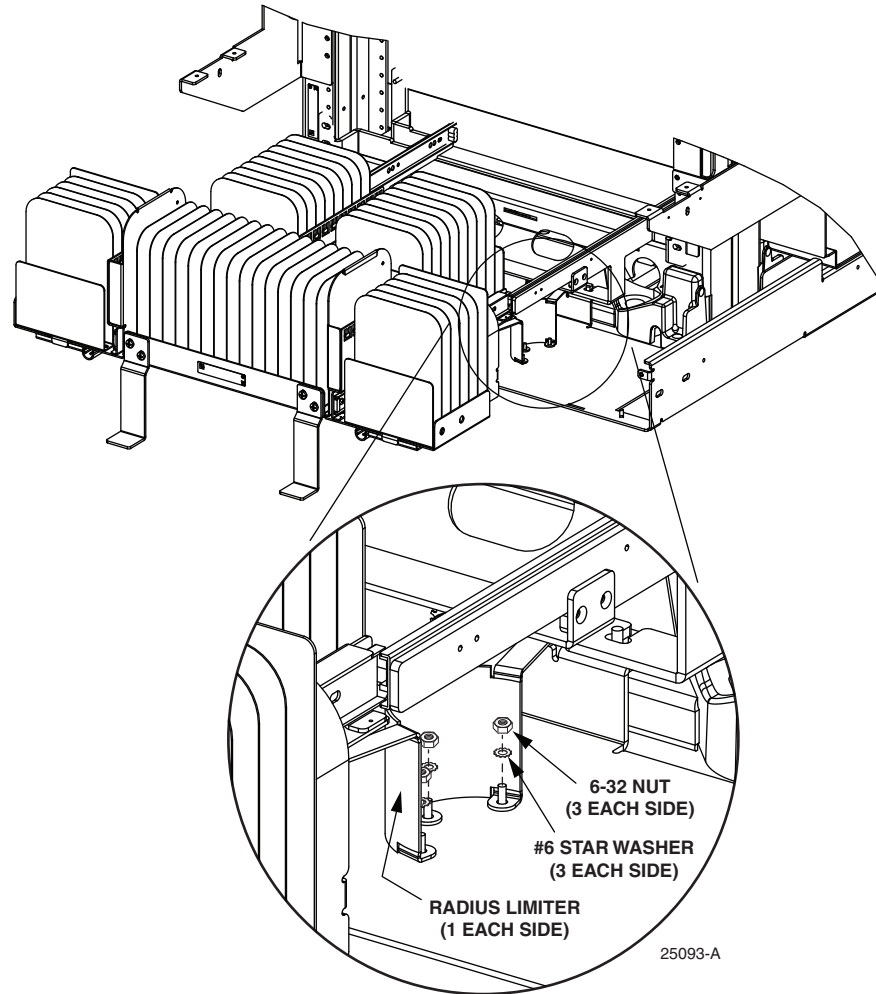

Figure 8. Installing Radius Limiters
- b. Place the radius limiters onto the threaded studs. There are three threaded studs at each location, as shown in Figure 8.